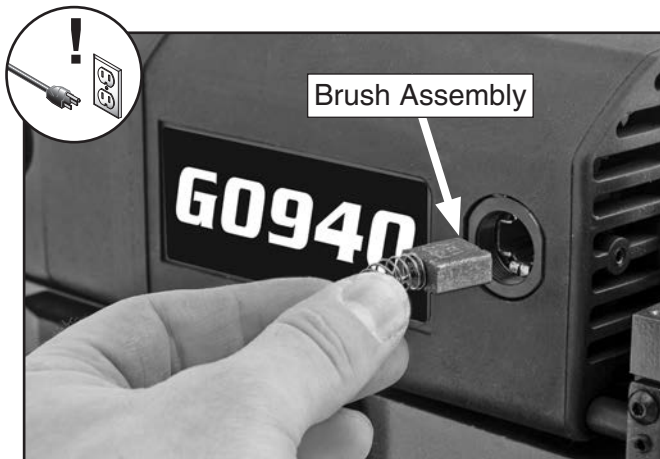

Figure 39. Removing front motor brush.
2. Unscrew plastic brush covers, and remove motor brush assemblies (see **Figure 39**).